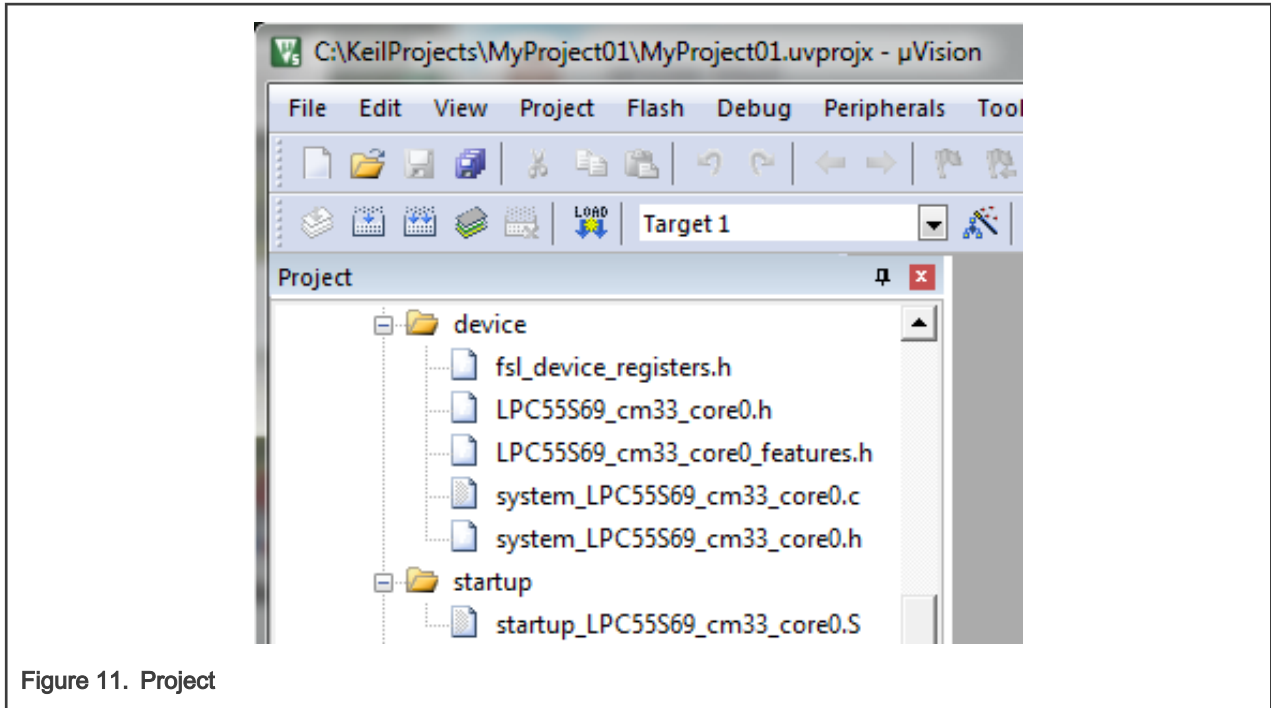

Figure 11. Project
10. Click OK, and a new project is created. The new project is now visible in the left-hand part of Keil uVision. See Figure 11.
13. Select Not Used in the Floating Point Hardware option. See Figure 11.